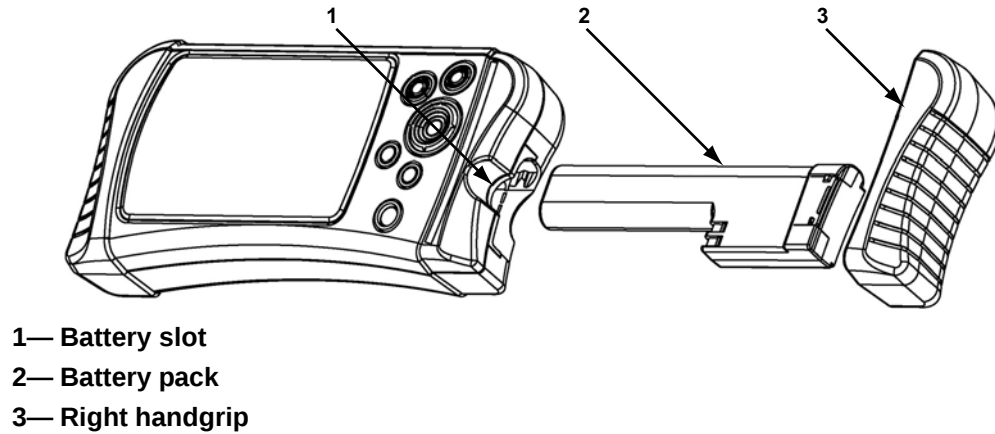

Figure 3-6 *Battery pack installation*
2. Insert the battery pack into the battery slot (Figure 3-6).